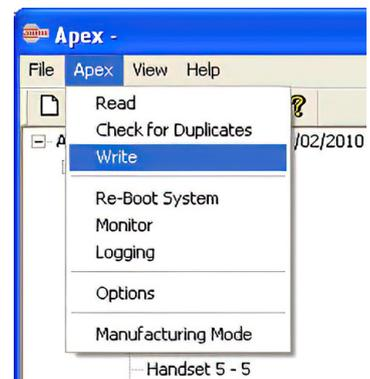

Fig 12
1. Choose: 'Apex' > 'Write' [Fig. 12] (or click 'Wr').